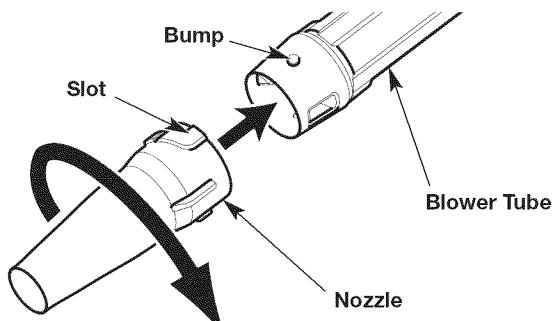

Fig. 2
1. Align the slots on the nozzle with the bumps on the lower end of the blower tube (Fig. 2).
2. Install the nozzle onto the blower tube (Fig. 2).
3. While holding the blower tube, twist the nozzle clockwise until it locks into place (Fig. 2). The tabs on the blower tube should align with the tabs on the nozzle (Fig. 3).